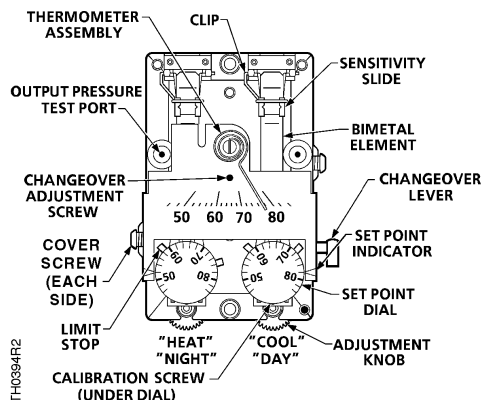

Figure 4. TH192 DN and DNV Thermostat Details.
2. Place a screwdriver in the center of the thermometer assembly (*Figure 4*). Carefully rotate the thermometer assembly until the pointer tip indicates the correct room temperature.
3. Place an Allen wrench in opening of the thermometer assembly (Figure 4) to adjust the changeover adjustment screw as follows:
To change the limit stop settings, use needle nose pliers to pull the limit stop (Figure 4) between the set point cam gear teeth. Do not pull the limit stop any more than necessary to clear the gear teeth. Rotate the limit stop to its new position. Changing the limit stop position one gear tooth changes the limit stop setting by 1-1/3°F (0.7°C).
The factory thermostat sensitivity setting is approximately 2.5 psi/°F (31 kPa/°C). To change the sensitivity, use a flat blade screwdriver to carefully move the sensitivity slide (Figure 4) to the desired position as follows:
4. If the control pressure does not read 7 to 8 psi (48 to 55 kPa), turn the calibration screw (Figure 4) using the calibration tool or 1/8" (3.2 mm) wrench until the pressure is 7 to 8 psi (48 to 55 kPa). The sensing element is now in calibration and the set point can be changed to the desired room temperature.
4. If the control pressure does not read 7 to 8 psi (48 to 55 kPa), turn the calibration screw (*Figure 4*) using the calibration tool or a 1/8" (3.2 mm) wrench until the pressure is 7 to 8 psi (48 to 55 kPa). The sensing element is now in calibration and the set point can be changed to the desired room temperature.